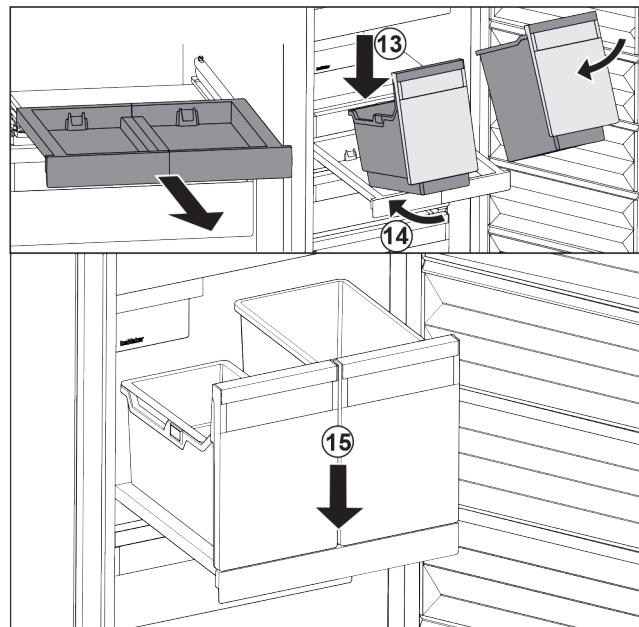

Fig. 129
- ▶ Place the container at an angle on the pull-out board. Fig. 129 (13)
- ▶ Slide the container to the back at an angle. Fig. 129 (14)
- ▶ Place container in the front. Fig. 129 (15)